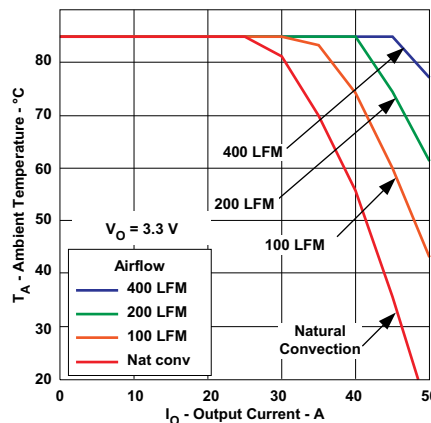
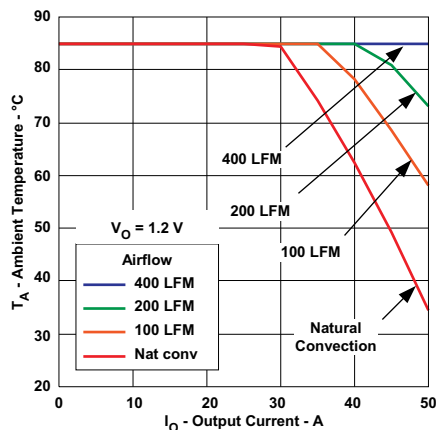

Figure 9. Ambient Temperature versus Output Current
Figure 10. Ambient Temperature versus Output Current
(14) The temperature derating curves represent the conditions at which internal components are at or below the manufacturer's maximum operating temperatures. Derating limits apply to modules soldered directly to a 100-mm x 100-mm double-sided PCB with 2-oz. copper and the direction of airflow from pin 10 to pin 22. For surface mount packages (AS and AZ suffix), multiple vias must be utilized. Refer to the mechanical specification for more information. Applies to Figure 9 and Figure 10.